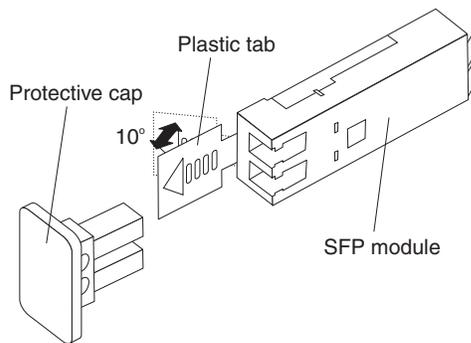

Figure 50. Unlocking the SFP module latch - plastic variety
- For SFP modules that contain plastic tabs, unlock the SFP module latch by pulling the plastic tab outward 10°, as shown in Figure 50.